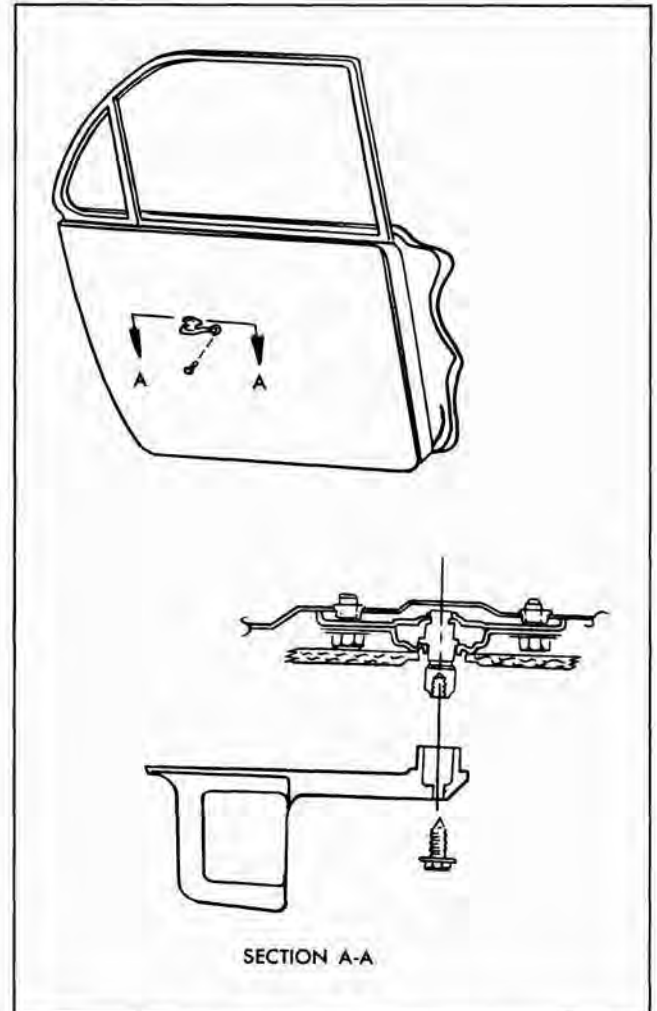

Fig. 3-9 Remote Control Handle
2. Remove handle-to-remote attaching bolt and remove handle from door (Fig. 3-9).